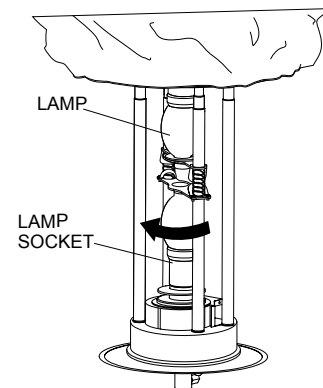

Figure 26. Installing New Lamp
5. Install new lamp into socket and turn lamp in a clockwise direction until tight. See Figure 26.